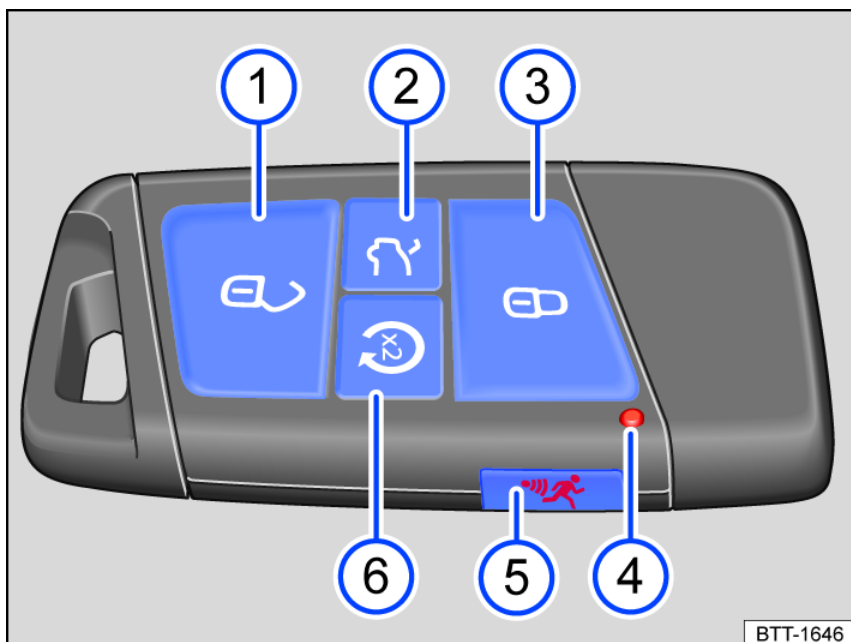

Fig. 46 Vehicle key with remote start relay function.
1. To carry out the remote start → *Remote start function*, press button (①) once *fig. 46* (③) and press button (⑥) twice *fig. 46* (⑥).